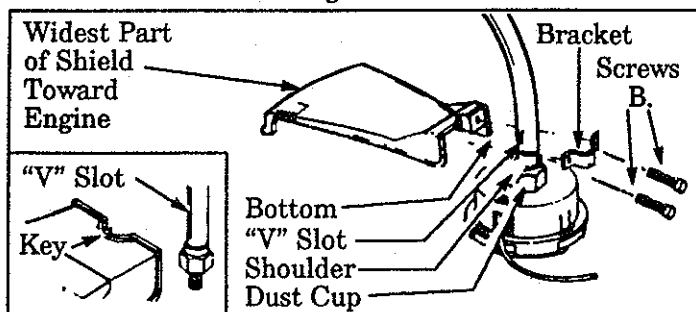

Figure 7
- Match the Key on the Shield with the "V" slot on the Drive Shaft Housing. Figure 7.
- Rest the bottom of the Shield on top of the shoulder (not on the Dust Cup) of the Drive Shaft Housing. Figure 7.
- Install the Shield Retaining Bracket and Screws "B." as Shown in Figure 7.